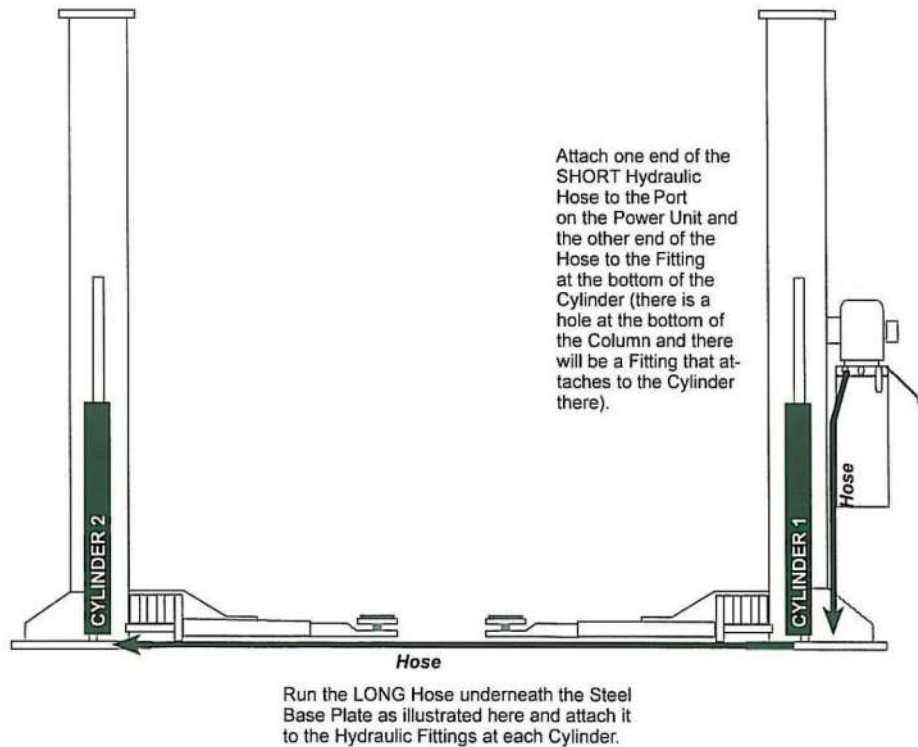

Figure 5.
- Connect long hydraulic hose between the cylinders and let it lay inside the floor pan. DO NOT over tighten. See figure 5 for hose layout and routing to the power unit.